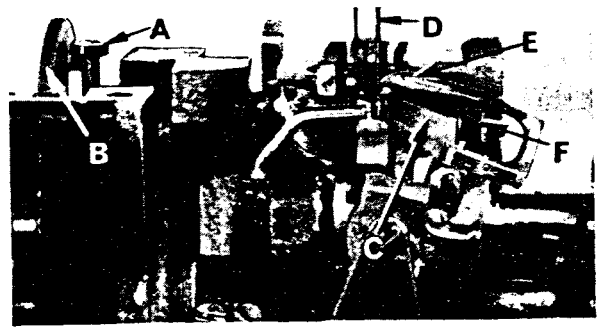

Fig. 10
The differential feed ratio is set by loosening screw (A, Fig. 10) and moving the selector slide (B) to the desired position. The screw and selector slide are accessible through the top of the cloth plate on the left side. Moving the differential feed selector slide (B) toward the front increases the amount of differential and moving it back decreases the differential feed. Retighten screw.
Set the rear needle guard (C, Fig. 10) horizontally so that it does not quite contact the rear of the right needle (D) when at its most forward point of travel. A clearance of .005 inch (.127 mm) is permissible. It should be set as low as possible, yet have its vertical face approach within about $\frac{3}{64}$ inch (1.19 mm) of the needle, until the point of the looper (E), moving to the left, is even with the needle. To move needle guard merely loosen screw (F), move needle guard as required, and retighten screw.